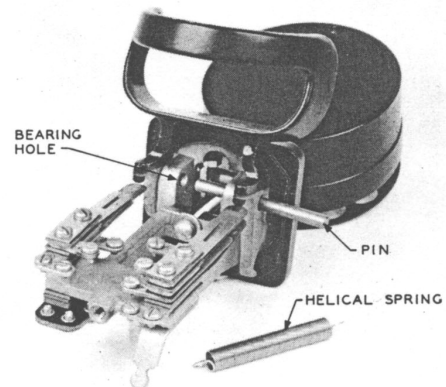

FIG. 7 — SWITCHHOOK ASSEMBLY
- 4.06** Squeaks may be caused by a dirty pin. Remove pin and clean it and bearing holes with KS-2423 cloth moistened with KS-7860 petroleum spirits. (See Fig. 7.)